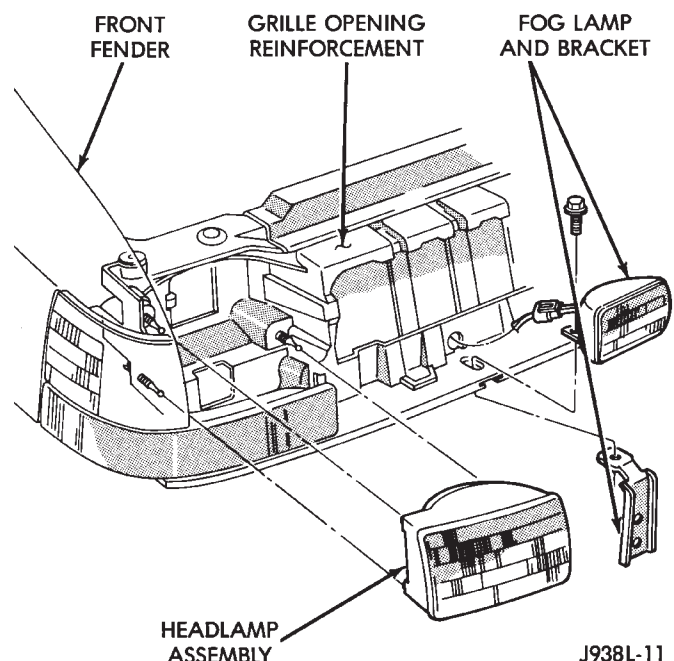

Fig. 2 Headlamp Removal
(2) Grasp lower edge of headlamp lens. Pull straight back (away) from grille opening reinforcement (GOR). Disengage lower adjuster pivots from lens assembly (Fig. 2).
(3) Grasp upper edge of headlamp lens. Pull straight back (away) from grille opening reinforcement (GOR). Disengage upper adjuster pivot from lens assembly.